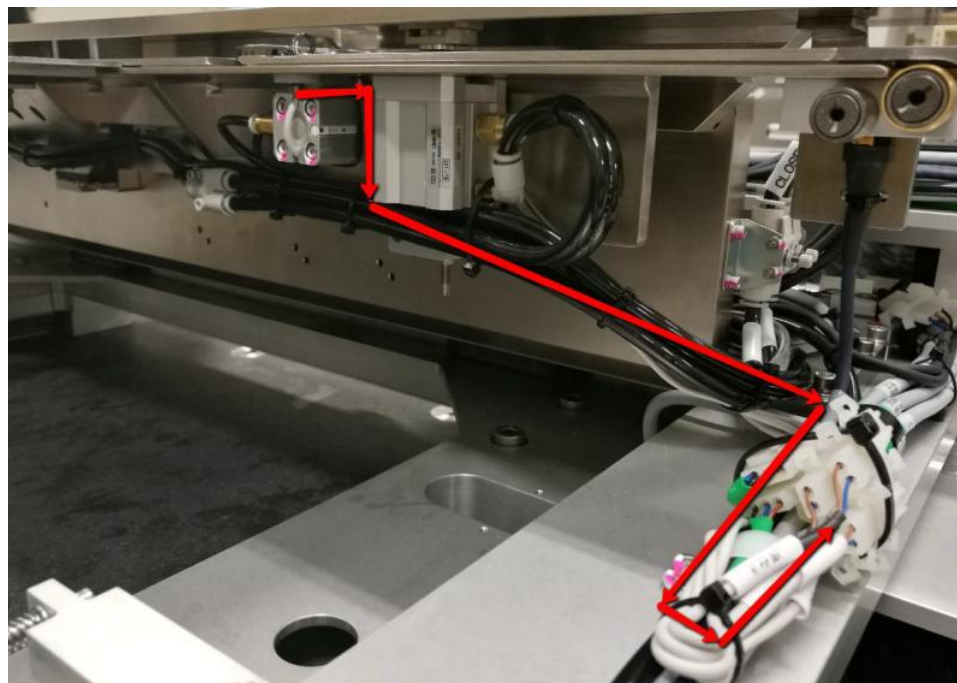

Figure 22 Left PIP Out Reed Sensor Routing
4. Route Left PIP Out Reed Sensor by following sensor routing as shown in Figure 22 below. Apply necessary cable ties.